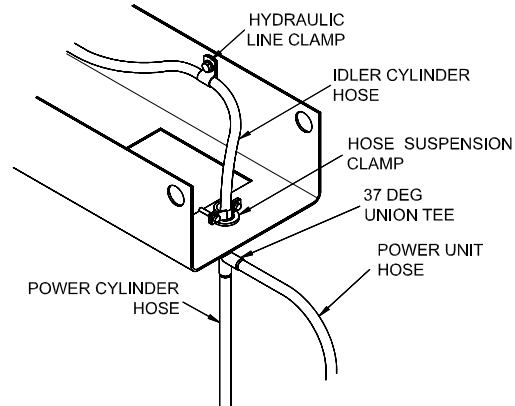
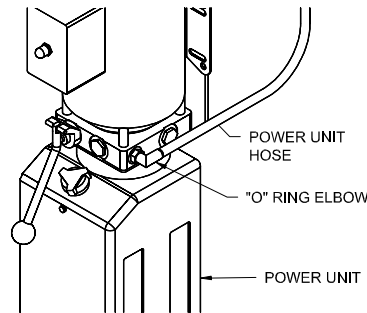

Fig 16
Fig 17
35. Using the 37 deg union tee attach the idler & power hose assembly. See **Fig 16**.
36. Attach short 'O' ring elbow to power unit. Attach power unit hose assembly to elbow. See **Fig 17**. Route up power column to opening at top of column. Feed hose through opening and attach to union tee. See **Fig 16**.